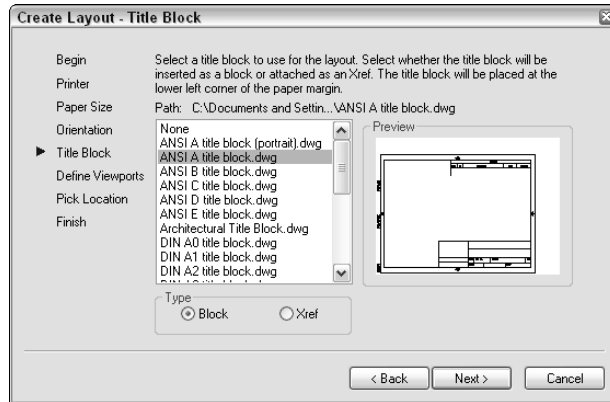

**Figure 17-5:** The Title Block screen of the Layout Wizard.
6. On the Title Block screen, shown in Figure 17-5, choose a title block if you want to add one. You can add it as a block (see Chapter 18) or as an *external reference*, or *xref* (see Chapter 19).